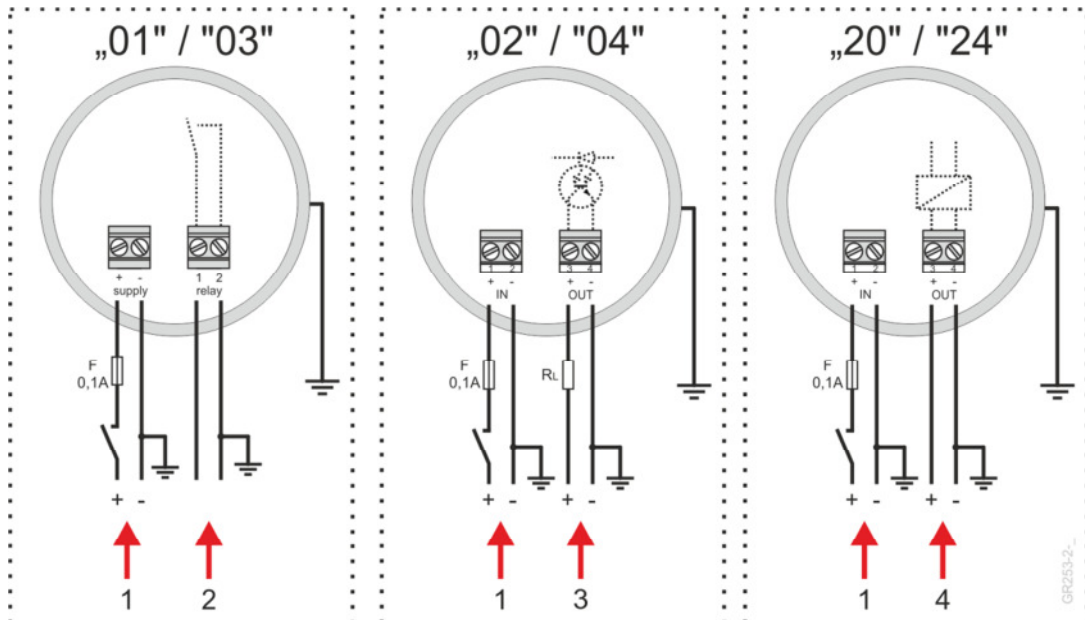

Fig. 26 Connection of output types 01, 02 and 20 to the terminals
6. Ground one core of the power supply to each output (see Fig. 26).